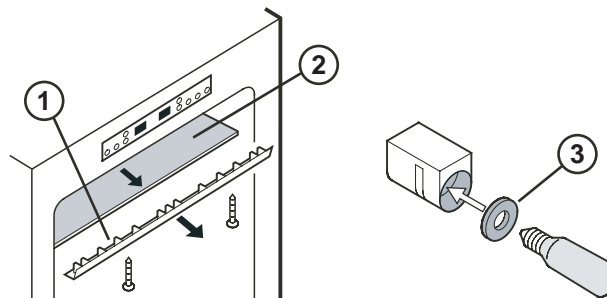

Figure 7
1. Remove the two screws securing the cover (Fig. 7, 1). Pull the cover straight out.
2. Remove the glass plate (Fig. 7, 2).
3. Remove the defective bulb. Make sure the seal (Fig. 7, 3) is placed on the new bulb before installing it.